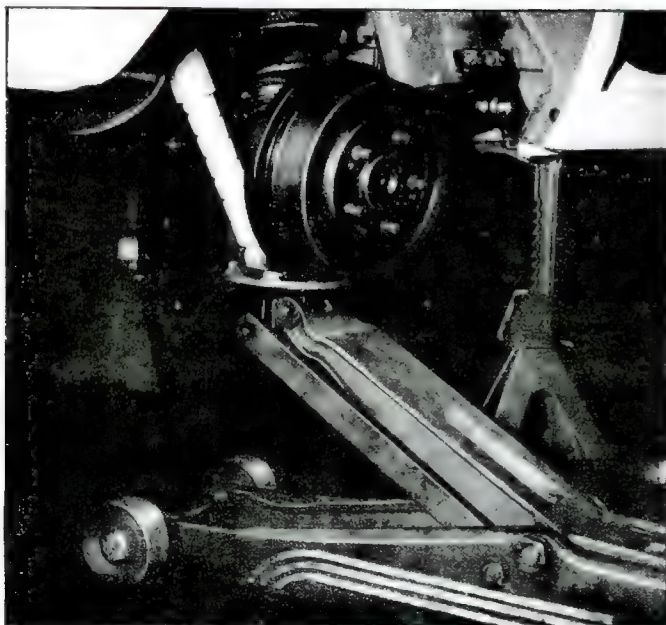

Fig. 78—Positioning Jack for Spring Removal
2. Position hydraulic jack under torque arm (fig. 78), raise torque arm and compress spring so that it is near curb height.